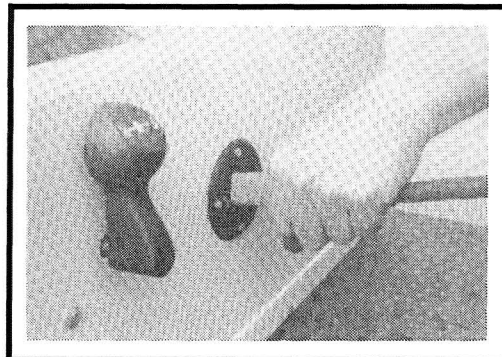

Figure 18
To charge batteries with a portable charger, insert DC plug into receptacle and the charger will turn on two to five seconds later (See Figure 18). As long as the charger is allowed to shut off by itself, the batteries will be fully charged and overcharging or undercharging should be prevented. Batteries should be put on charge even if only used for 10 minutes. If charger does not seem to be operating properly or the batteries seem weak, contact your nearest CLUB CAR Dealer.
**To connect the charger plug to the vehicle receptacle, grasp the plug handle and push the plug straight into the receptacle. Do not rock or bend the plug (See Figure 18).**